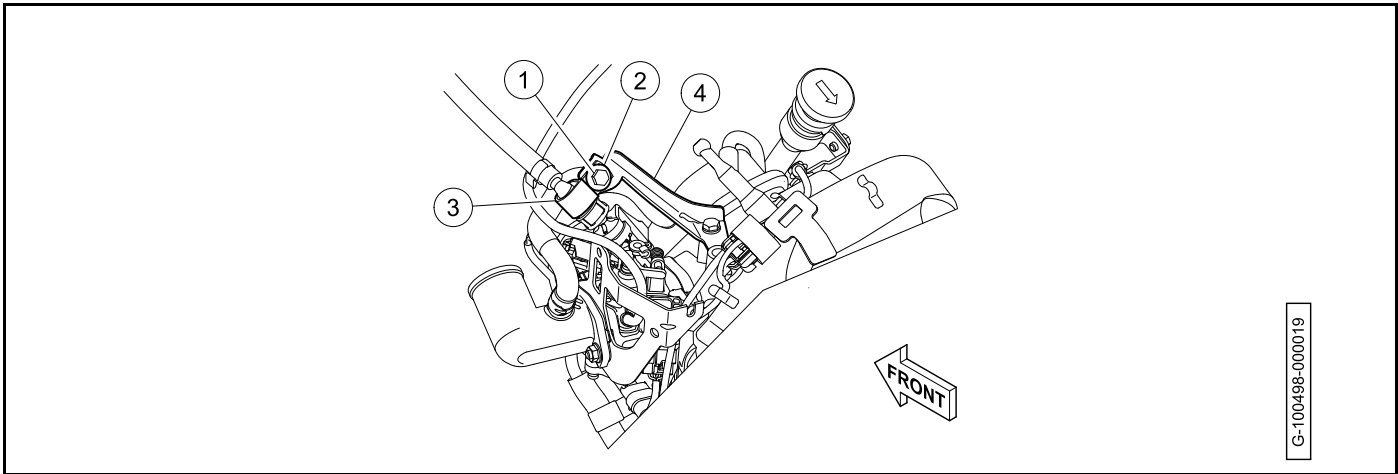

Figure 22-12
- 5.1. Remove the bolt (1), washer (2), and P-clamp (3) from the fuel line support bracket (4) (**Figure 22-12, Page 22-14**).